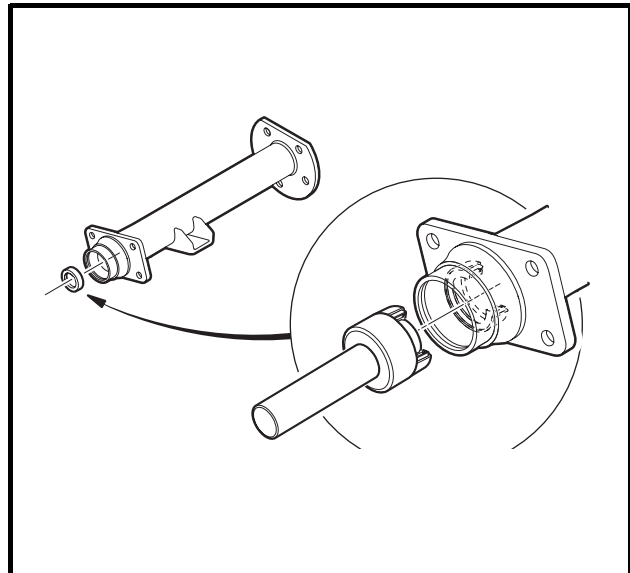

Figure 17-4 Axle Seal and Adapter Ring Installation
- 1.5. Place the oil seal and adapter ring assembly into the axle tube with the seal lip facing away from the bearing (**Figure 17-4, Page 17-2**). Use an axle seal tool (CCI P/N 1014162) and mallet to tap it in until it seats firmly in position. **See following CAUTION.**